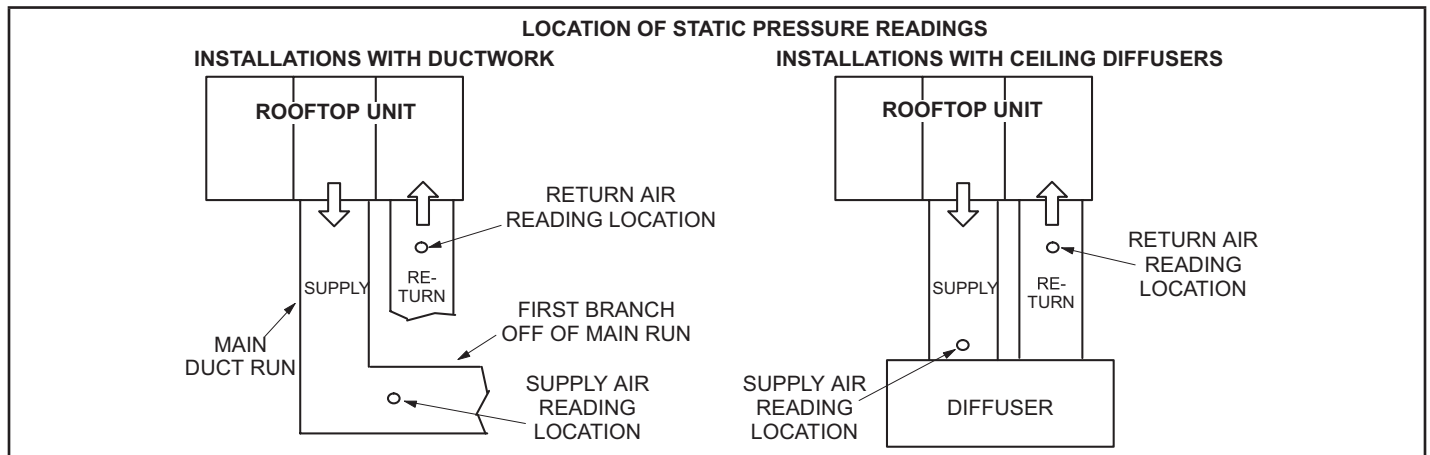

FIGURE 14
- 2 - With all access panels in place, measure static pressure external to unit (from supply to return). Blower performance data is based on static pressure readings taken in locations shown in figure 14.